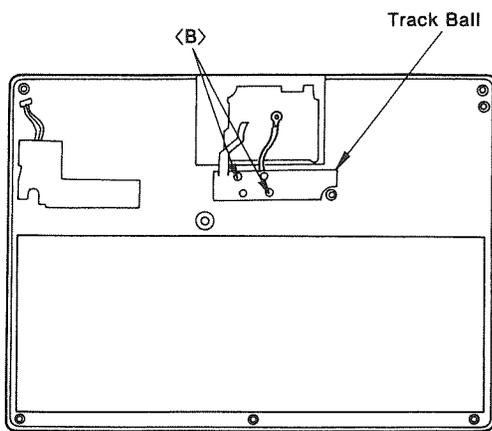

Figure 45A
- (2) Remove two screws  as shown in Figure 45A.